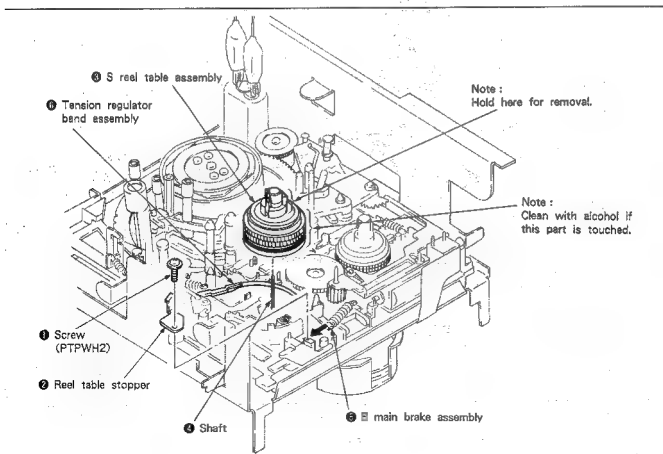
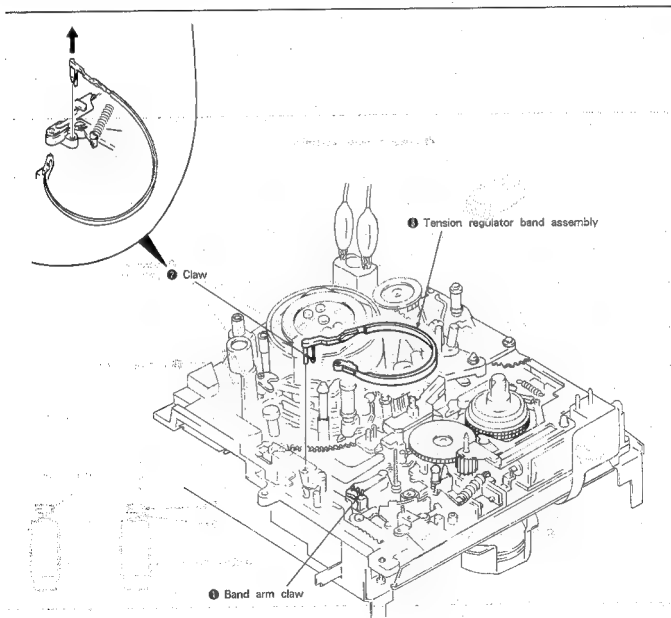

Fig. 7-6.
Fig. 7-10.
- Removal (See Fig. 7-6.)
- Remove screw ① and remove reel table stopper ②.
- Remove the S reel table assembly ③.
Note: Be sure to hold the upper reel claw section when removing. (See Fig. 7-6.(Note))
2. Mounting (See Fig. 7-6.)
- Put a half drop of oil on the upper point of shaft ④.
- Move the S main brake assembly ⑤ in the direction of arrow.
- Mount the S reel table assembly ③, being careful not to hit the tension regulator band assembly ⑥.
- Mount the reel table stopper ② and tighten with screw ①.
Removal (See Fig. 7-10.)
-) Remove the S reel table assembly according to 7-3-1. 1. Removal. (See Fig. 7-6.)
-) Remove the band arm claw ①.
-) Remove claw ② and remove the tension regulator band assembly ③.
2. Mounting (See Fig. 7-10.)
- 2) Fit on the band arm claw ①.
- 3) Mount the S reel table assembly according to 7-3-1. 2. Mounting. (See Fig. 7-6.)